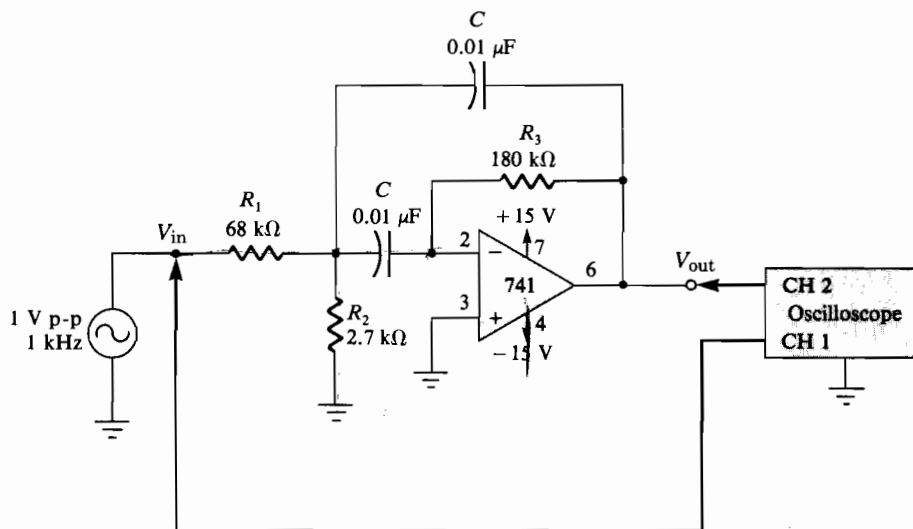

FIGURE 41-1 Schematic diagram of circuit.
1. Wire the circuit shown in the schematic diagram of Figure 41-1, and set your oscilloscope for the following approximate settings:
1. The center frequency for the band-pass filter circuit of Figure 41-1 with the components shown is approximately
2. The Q for the circuit of Figure 41-1 with the components shown is approximately
5. For the circuit of Figure 41-1, if R_2 is changed to a lower value,